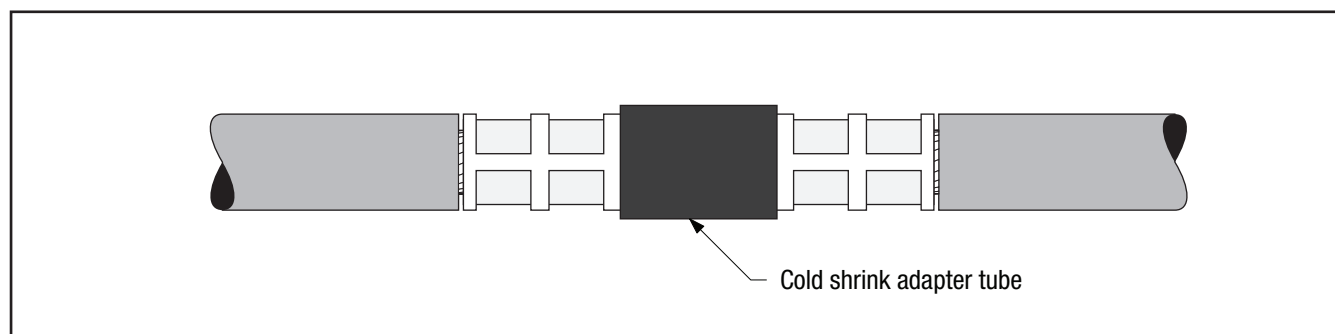

Figure 11
- 4.2 **If using cold shrink adapter tube:** Position adapter tube over the connector. Shrink adapter near the center of connector by pulling and unwinding the loose core end in a counterclockwise direction (*Figure 11*).